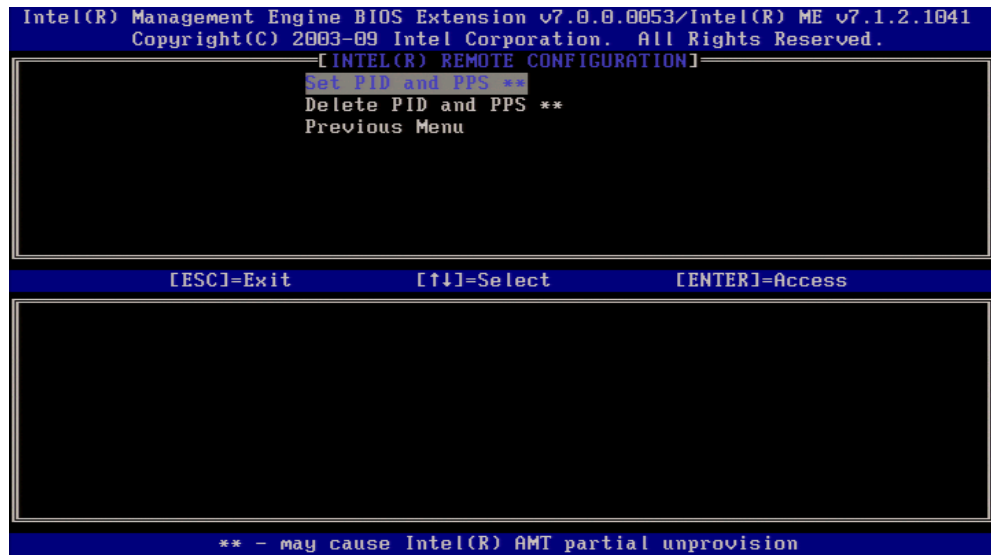

Figure 27. Intel TLS PSK Configuration Screen
- f. Select **TLS PSK**. The Intel TLS PSK Configuration Screen appears (Figure 27).